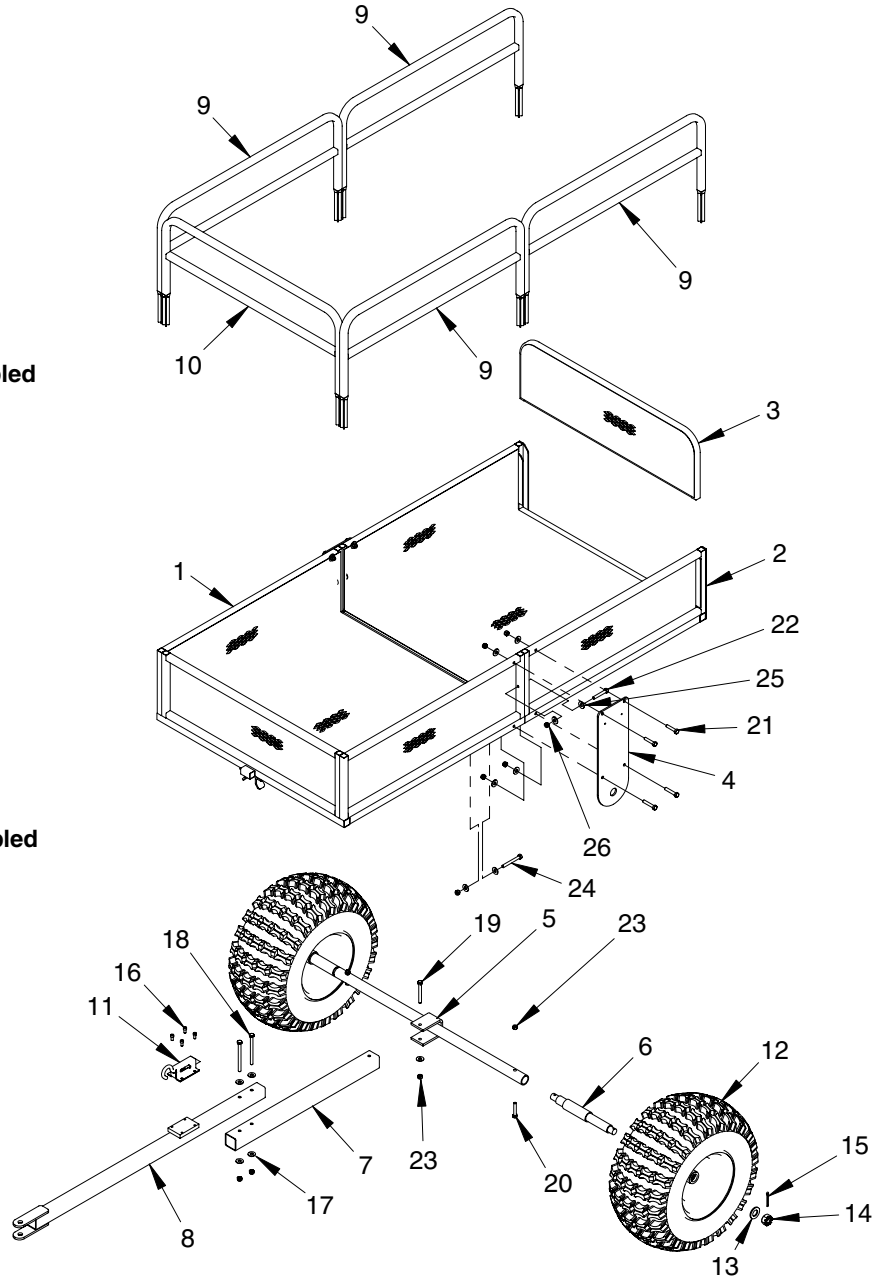

FIGURE 1
1. Insert rear tongue tube (TK81) to the welded-on "U"-bracket located on the axle tube (TK80) using (1) provided 5/16-18 x 2-3/4" bolt, nyloc nut and 5/16" washer. **SEE FIGURE 1.**
2. Attach the front trailer tongue (300717) to the rear tongue using (2) provided 5/16-18 x 4" bolts, nyloc nuts and (4) 5/16" washers. Be sure both the front and rear tongue are aligned before tightening. **SEE FIGURE 1.**
3. Slide the axle plate (300705) over the short end of axle spindle (TK48). Thread the short end of axle spindle into the axle tube until tight. Back off the axle spindle until holes are aligned and secure using (1) provided 1/4-20 x 1-3/4" bolt and nyloc nut. **SEE FIGURE 1.** Repeat this step for the other side.
4. Support the trailer far enough off the ground for the assembly of the wheels. Slide the wheel onto the threaded axle spindle with grease fitting facing outward. Secure in place following this order: 3/4" washer, 3/4" crown nut and cotter pin. Back crown nut off just enough so wheel spins freely and crown nut slot aligns with hole in threaded axle spindle. Insert cotter pin. Using a needle nose pliers, bend cotter pin ears around so it will not come off the axle spindle. Repeat this step for remaining wheel. **SEE FIGURE 1.**
- Attach the front trailer frame (300713) to the axle plates using (2) provided 1/4-20 x 1/1-2 bolts, (2) 1/4-20 x 1-3/4" bolts, (4) nyloc nuts and (4) 1/4" washers. **SEE FIGURE 1.** Latch the front trailer frame to the latch located on trailer tongue to hold in place.
- Attach the rear trailer frame (300710) to the axle plates using (2) provided 1/4-20 x 1/1-2 bolts, (2) 1/4-20 x 1-3/4" bolts, (4) nyloc nuts and (4) 1/4" washers. **SEE FIGURE 1.**
- Attach front trailer frame and the rear trailer frame together using (2) provided 1/4-20 x 2" bolts, (2) 1/4-20 x 2-1/2" bolts, (4) nyloc nuts and (8) 1/4" washers. **SEE FIGURE 1. You may now tighten all nut & bolt assemblies. Be sure not to over tighten or crush tubing when tightening!**
- Slide the removable tailgate (300704) into the slots of rear trailer frame. Slide the removable side rails (300700 & 300701) into the top side of front and rear trailer frames. **SEE FIGURE 1.**